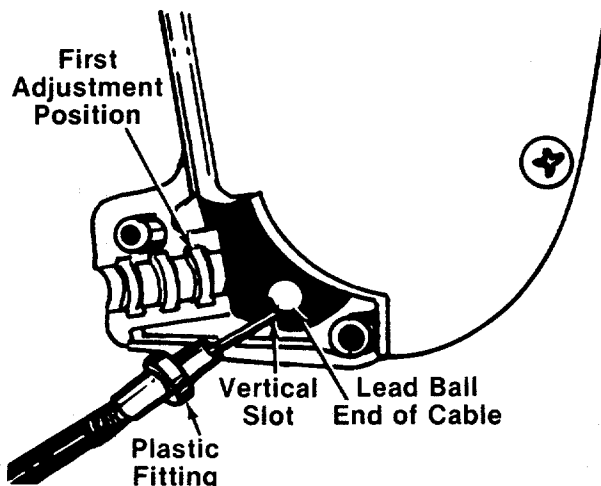

FIGURE 11.
- a. Place the lead ball end of the cable into the fitting provided in the end of the clutch control lever. Slip the braided wire into the vertical slot as shown in figure 11.
- c. Place the plastic fitting on the control cable into the first adjustment position in the clutch control housing. See figure 11.
When starting the unit for the first time, face the mower against a solid object such as a wall, fence, etc. Start the unit, and if it shows any signs of motion with the drive clutch control disengaged, shut the engine off immediately. Check the position of the drive clutch control cable. The plastic fitting must be assembled in the first adjustment position inside the housing, all the way to the right, as shown in figure 11.